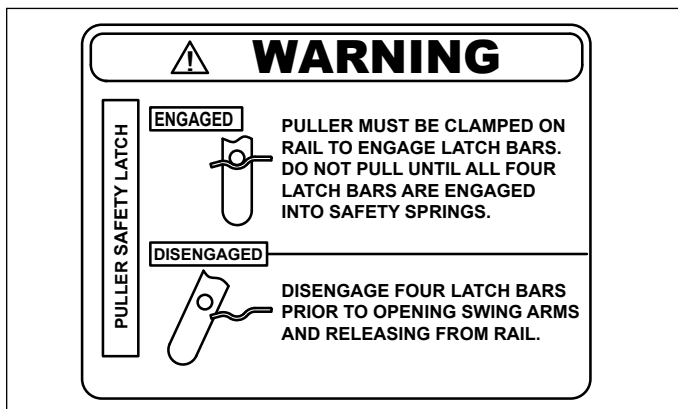

Figure 4, Puller Brake Safety Warning Decal
**IMPORTANT:** Always observe precautions shown on safety warning decal. See Figure 4.